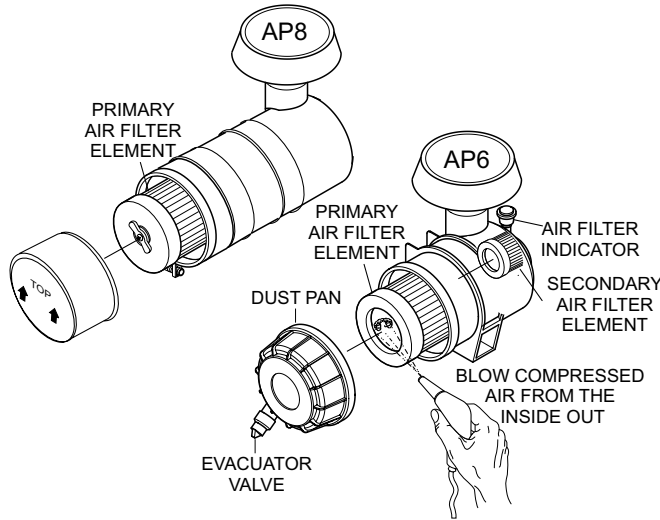

Figure 50. Air Filter
- To clean the main element (paper air filter) as referenced in (Figure 50), tap the filter element several times on a hard surface to remove dirt, or blow compressed air from the inside out (not to exceed 30 psi (207 kPa, 2.1 kgf/cm2).